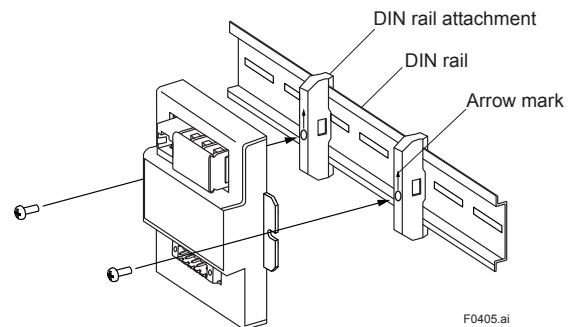

Figure 4.5 Mount LN90 on DIN rail
2. Attach LN90 by aligning the screws of the attachment to the installation holes on the left and right of LN90 (See Figure 4.5).